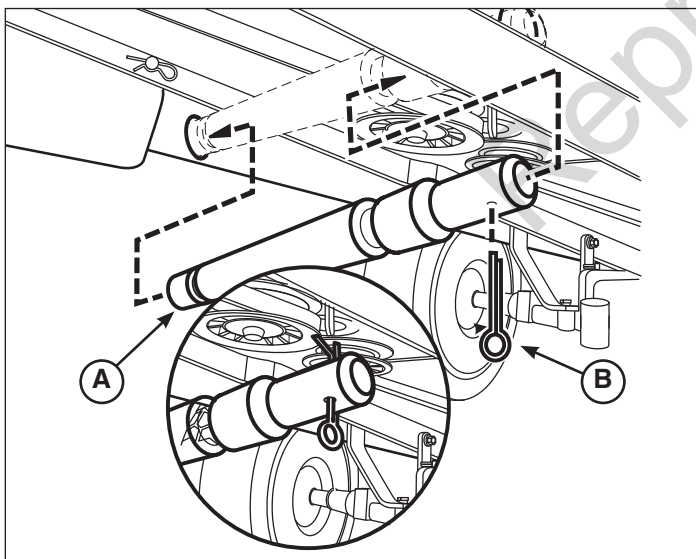

Figure 4
4. On underside of tractor frame, insert reach support rod (A, Figure 4) as shown and secure with the cotter pin (B) on inside of frame.
5. Slightly bend longer end of cotter pin. See Figure 4 inset.